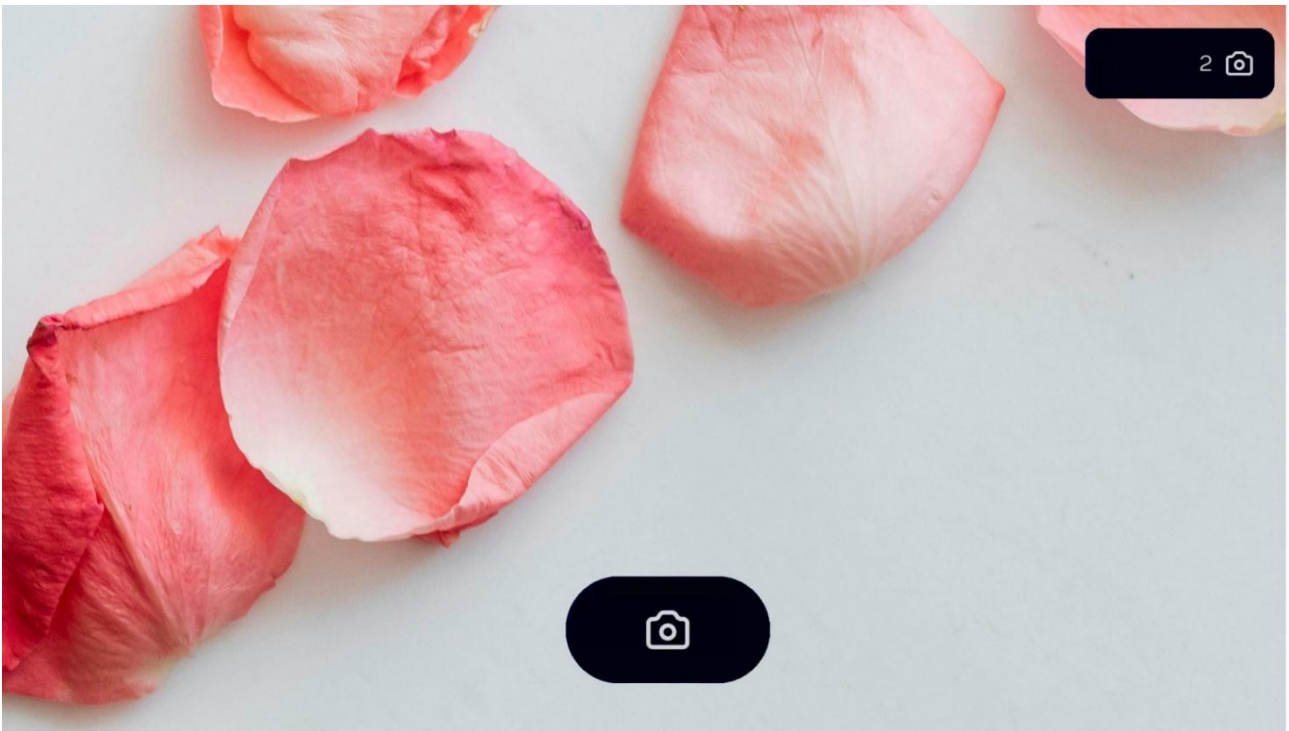

Figure 6: Confirmation of image taken
- Capture an image by short press on [1] (see Figure 6).